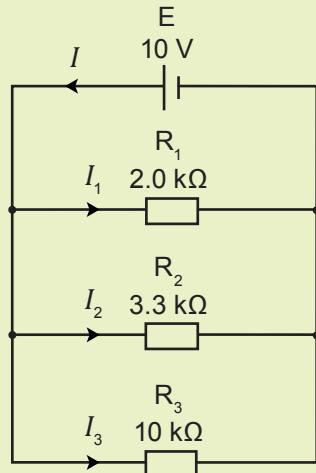

Figure 4.25
1. Figure 4.25 shows a circuit with three resistors connected in parallel.